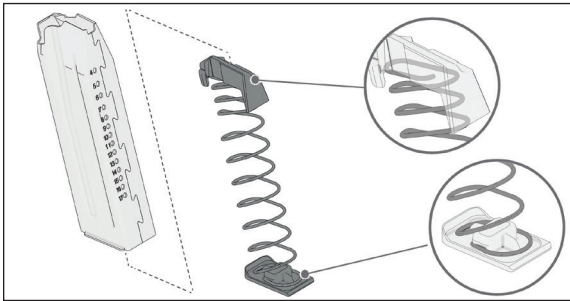

Figure 38 – Observe installation positions
1. Set follower onto magazine spring. Observe installation position (Fig. 38).
2. Place magazine spring onto magazine locking plate. Observe installation position (Fig. 38).